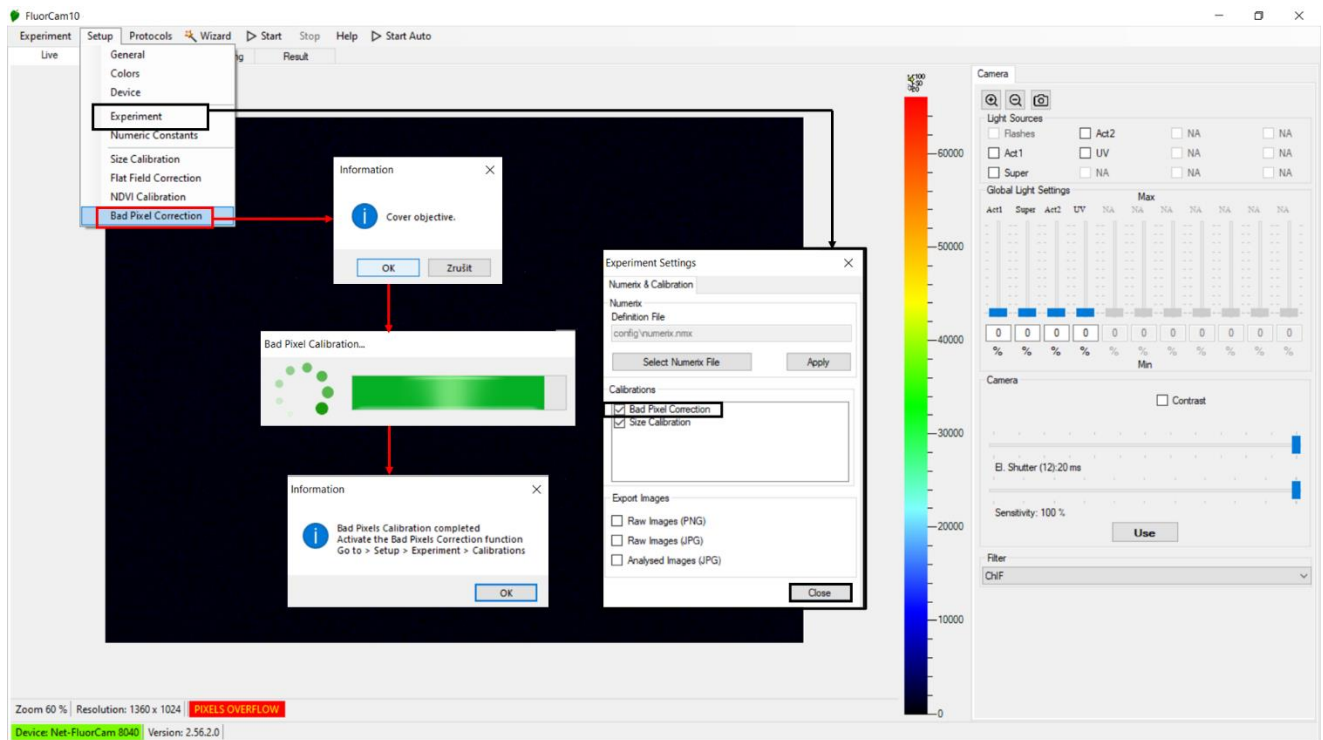

Fig. 34 Bad pixel correction setup
2. In top panel menu in FluorCam10 application, select Setup (Fig. 34) and then Bad Pixel Correction. Once the message COVER OBJECTIVE appears, the software starts to detect bad pixels automatically.